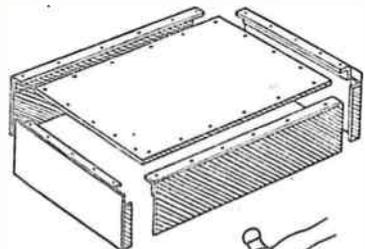

Fig. 1
For the base you will need a piece of wood 7½ins. by 2ins. by 1in. This is trued up to finish 1½ins. wide and ½in. thick. The marking out is shown in Fig. 1. It is the distance between the
Fig. 1 illustrates the development of a typical marking knife blade. A length of hacksaw blade, about 4ins., with the hole in one end, should be marked out and ground down with coarse and fine carborundum wheels to the shape as at (C). (D) shows the sections of the blade
Fig. 1. Five rectangular pieces of sheeting are sawn out (top, two sides, and two end pieces). (Incidentally, use ruler and set-square to draw out the shapes, and score the lines with a sharp metal point.) These parts are then joined to each other by the use of angle-bar, the appropriate holes being drilled and either rivets or nuts and